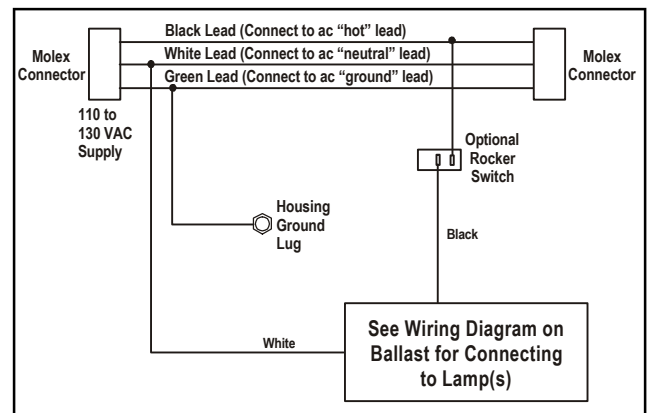
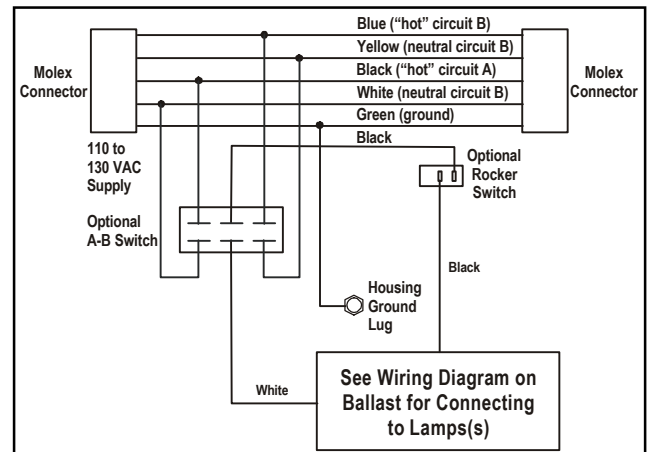

Figure 4
Figure 5
9. Connect the power supply wiring as shown in Figure 4. Figure 5 illustrates typical wiring for a unit with the optional dual circuit switch. Connect the ac feed to the three pigtails provided between the two Molex connectors in the diagram. Be sure wirenuts are secure and that no strands of wire are left exposed.